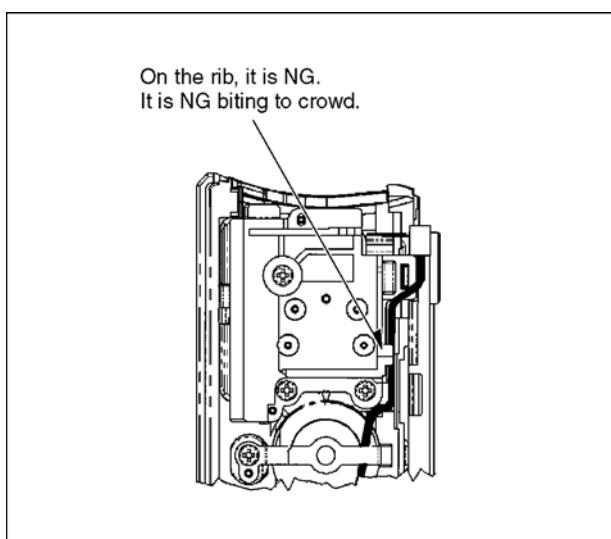

Fig. D11
- Top Operation Unit is installed and the following wire rod is a thing that becomes like Fig.D11.